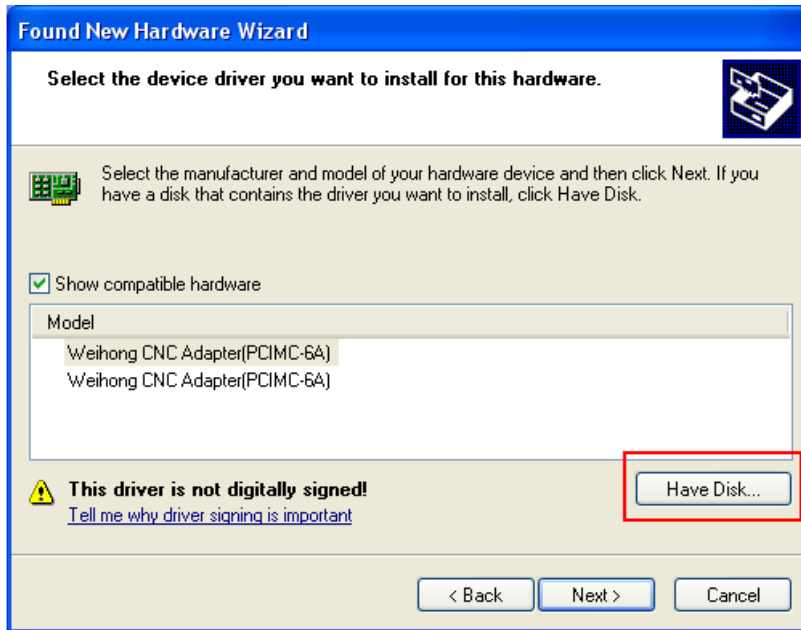

Fig. 2-9 Select the driver manually
- 3) Select “Don’t search”, I will choose the driver to install’, click [Next] to go ahead, as Fig. 2-9 shows.